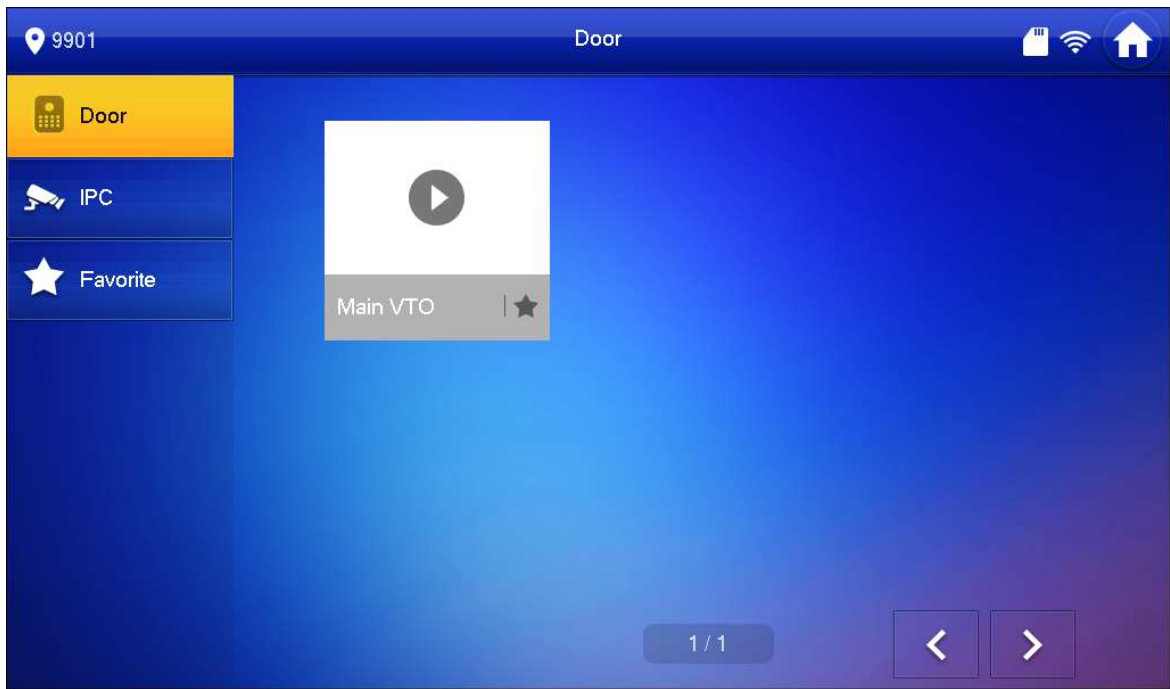

Figure 5-15
Step 1. Select Monitor>Door. See Figure 5-15.